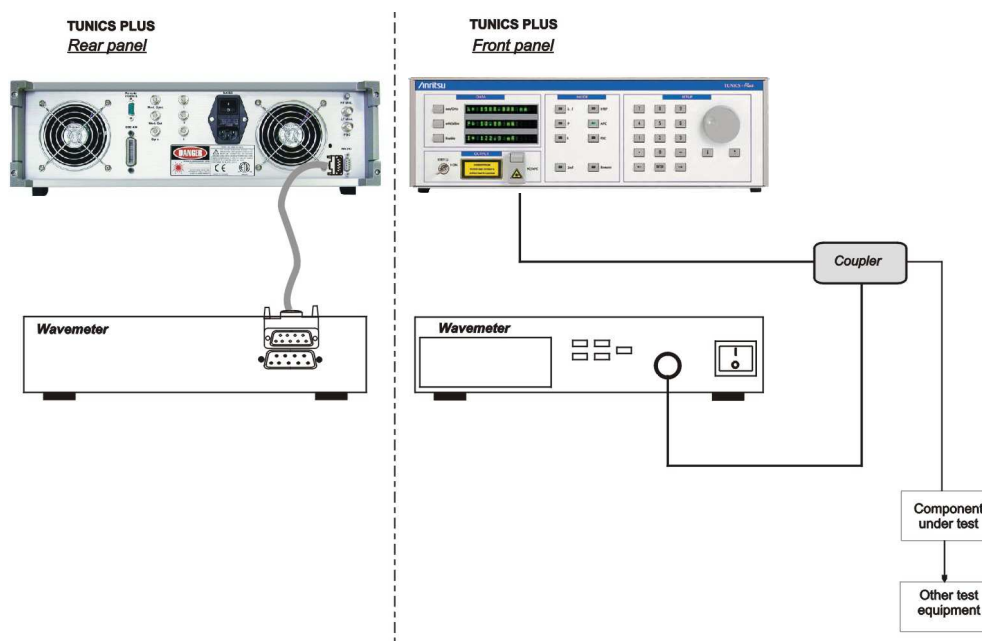

Figure 5 - 1: Instrument Setup for Wavelength Monitoring
1. The measurement setup requires optical connection of the TUNICS-**Plus** output to the wavemeter via the low output port of an optical coupler (the remainder of the signal available on the coupler's high-output is sent to the component under test). (See Figure 5 - 1.)